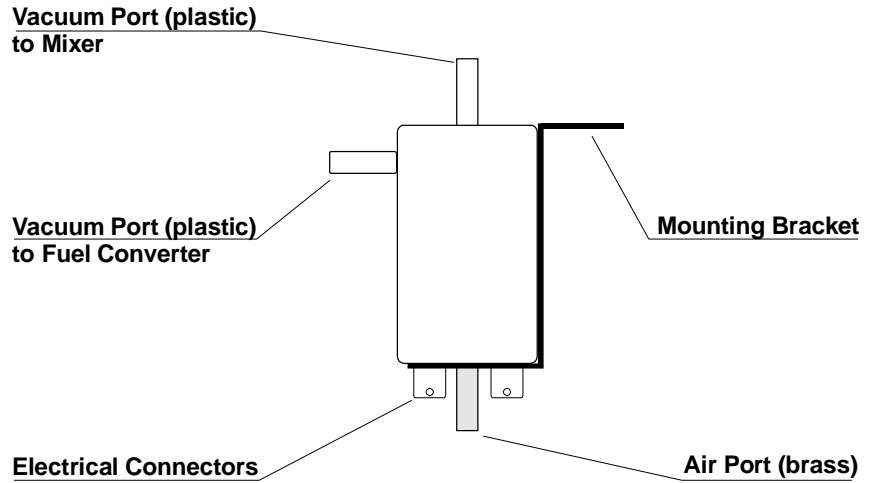

Figure 2. Solenoid Valve Ports
If the engine is to be operated in dusty environment, install the foam filter on the air port of the solenoid valve (it is the brass port of the solenoid located in the proximity to the electrical connections, as shown in Figure 2). Making sure that the port opening is not blocked, place a drop of adhesive on the brass port and place the foam filter over the port.
This step involves (1) the installation of the vacuum elbow into the fuel converter/regulator, (2) connecting the elbow with the solenoid valve, (3) installing the vacuum fitting in the mixer and (4) connecting the solenoid valve with the mixer vacuum. Solenoid valve ports are referenced in Figure 2 (on page 10).
(1) Locate the atmospheric vent on the converter, it will either be on the cover (IMPCO, Nolff's) or at the base of the converter (Aisan).
(2) Cut sufficient length of the flexible vacuum hose and connect the vacuum elbow with the plastic vacuum port on the side of the solenoid valve (see Figure 2 on page 10).
(3) Identify a vacuum port in the mixer and install the vacuum fitting.
Cut sufficient length of the flexible vacuum hose and connect the vacuum fitting in the mixer with the remaining plastic vacuum port of the solenoid valve (see Figure 2).